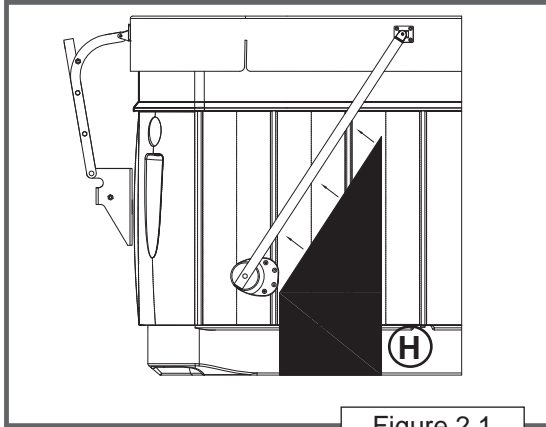

Figure 2.1
Locate the Template (H) and place on ground below Side Arm Assembly (Figure 2.1).
Slide Template against Side Arm Assembly making sure the entire angle of the Template touches the Side Arm Assembly (Figure 2.1)